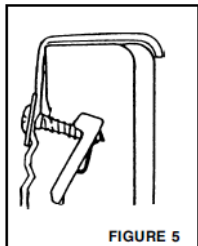

FIGURE 5
- IMPORTANT:** The "Liner-Lok™" must be in a loose downward hanging position at this time. (see FIGURE 5)